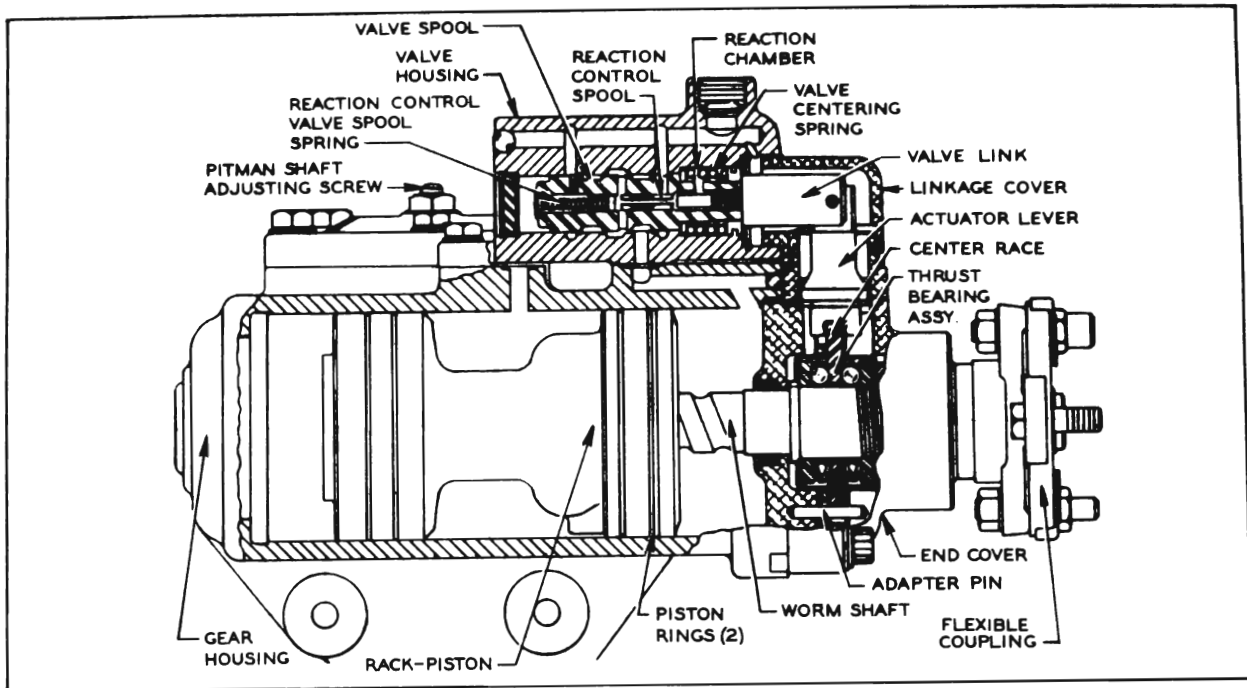

Figure 8-11—Power Steering Gear Assembly
part of the power piston. This rack-piston slides in the gear housing which is cylindrical. The rack-piston assembly consists of power piston and rack with two piston rings and also a ball nut locked rigidly in place with a retaining screw. See figure 8-11.
The hydraulic valve controls the flow of oil from the pump to the proper side of the power rack-piston when power assistance is required and cuts off this flow when power assistance is not required. It also regulates the effort at steering wheel within the normal range of two and three-quarters ($2\frac{3}{4}$) to six (6) pounds so that this effort is proportional to the force necessary to turn the front wheels, thereby providing the "feel" of steering previously mentioned. See Figure 8-11.